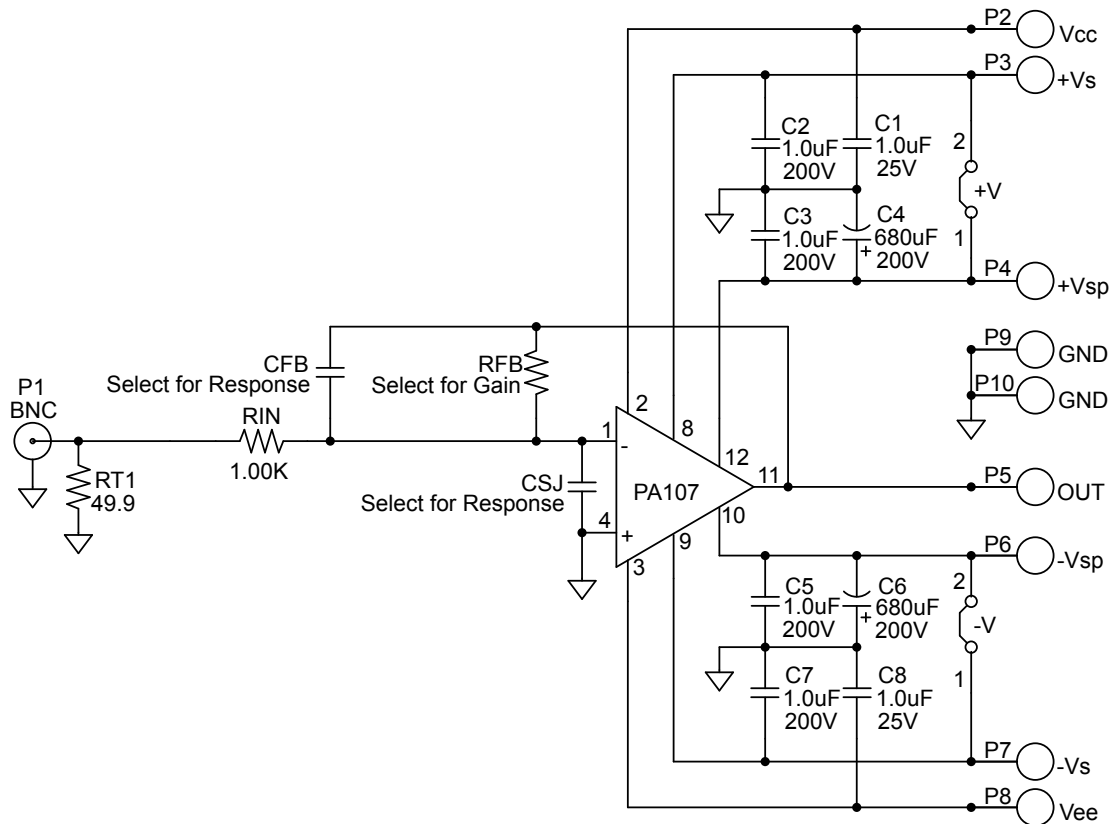

FIGURE 1 – EK71 Schematic
The EK71 Evaluation kit is designed to provide a convenient way to breadboard and evaluate design ideas for the PA107 power operational amplifier. The evaluation board is pre-wired for all required external components. The evaluation board has been laid out and labeled to easily configure the high voltage operational amplifier in an inverting configuration. However, the evaluation board is flexible enough to analyze a multitude of standard or proprietary circuit configurations. Components not usually readily available in engineering labs are provided. External connection to the evaluation kit can be made via the terminal connectors at the edge of the circuit board. These connectors are suitable for standard banana plugs. The schematic is shown in Figure 1.
1. See Figure 1 and Figure 2. Solder the surface mount ceramic capacitors to the DUT side of the circuit board at C2, C7, C5 and C3.